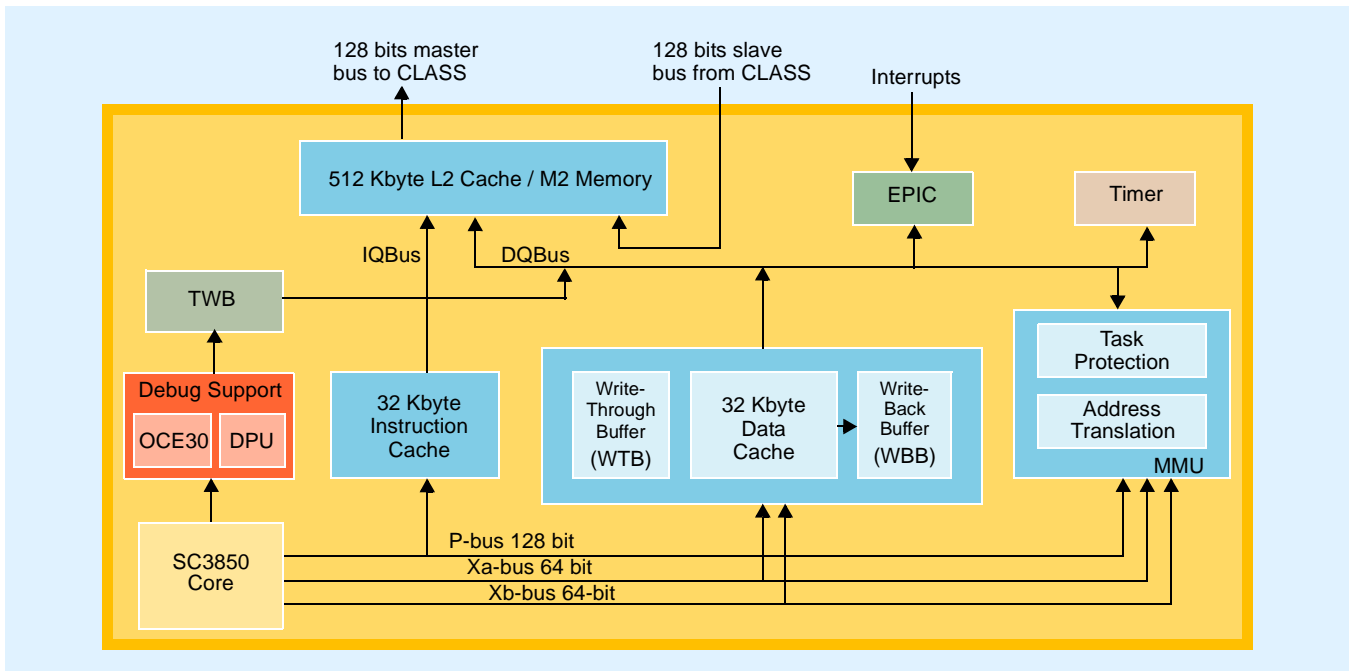

Figure 2. StarCore SC3850 DSP Subsystem Block Diagram
- Figure 2. StarCore SC3850 DSP Subsystem Block Diagram 3